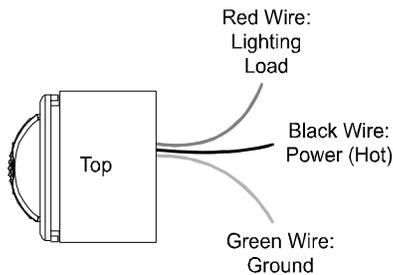

Figure 4: OLS-2100 Wiring Diagram
4. Wire the OLS-2100 as shown in Figure 4.